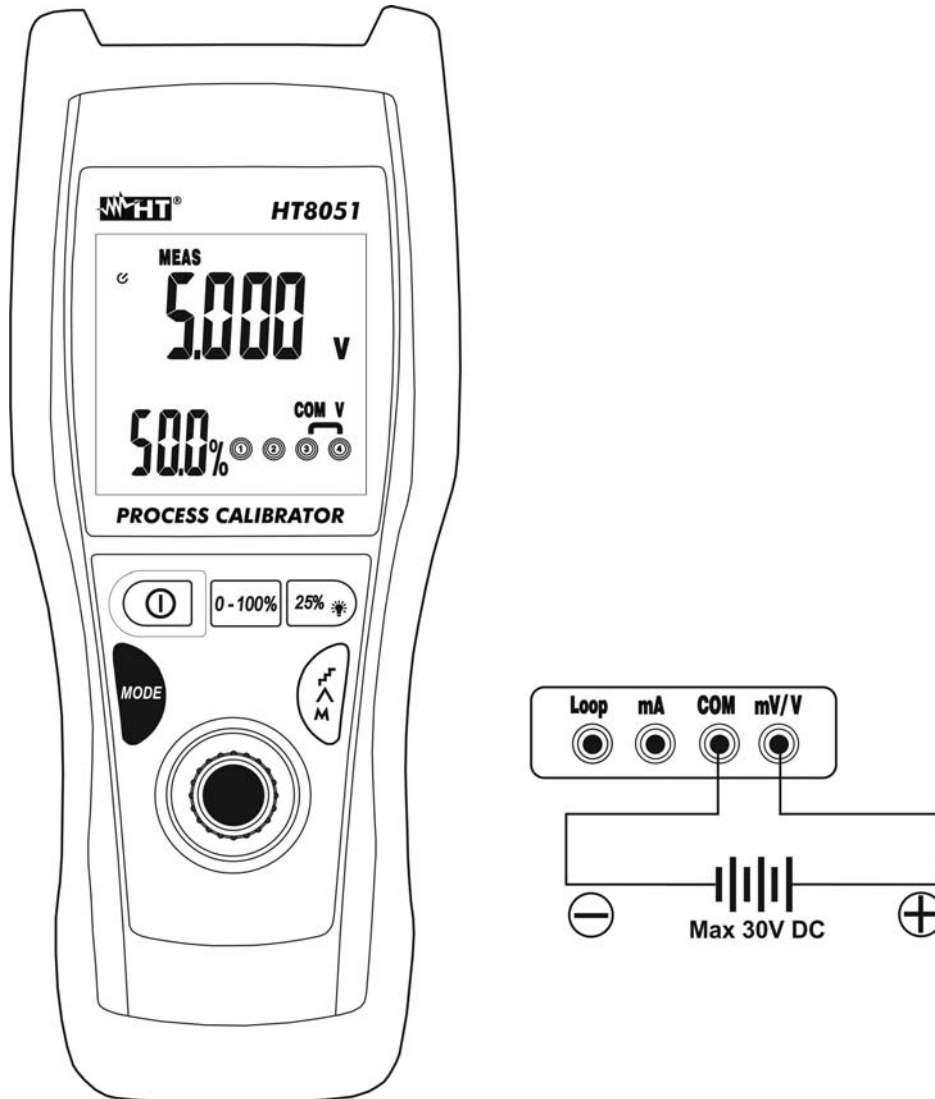

Fig. 3: DC voltage measurement
3. Position the green lead and the black lead respectively in the points with positive and negative potential of the circuit to be measured (see Fig. 3). The value of voltage is shown on the main display and the percentage value with respect to the full scale on the secondary display
4. The message “-OL-” indicates that the voltage being measured exceeds the maximum value measurable by the instrument. The instrument do not perform voltage measurements with opposite polarity respect to the connection in Fig. 3. The value “0.000” is shown at display